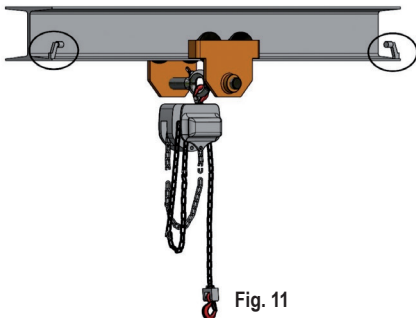

Fig. 11
- ⚠ Make sure limit switches are fitted to the beam (see fig. 11). If a limit switch is removable, make sure it is reset after gaining access to the carriage.
All the information on the accessory can be found on the plate attached to it (fig. 11).